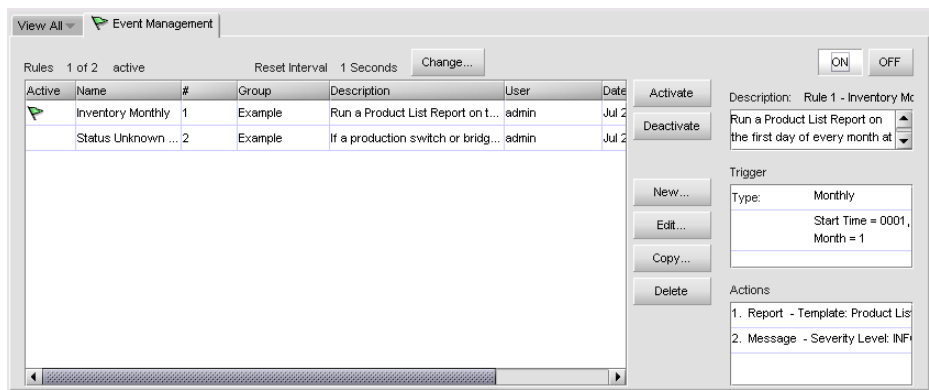

Figure 69 Event Management tab
To view Event Management, click the Event Management tab on the HAFM main window. All configured rules display (Figure 69). From this dialog box, you can manage Event Management rules. See Table 17 for a description of each window section.
1. Click the Event Management tab on the HAFM main window to display Event Management information (Figure 69).